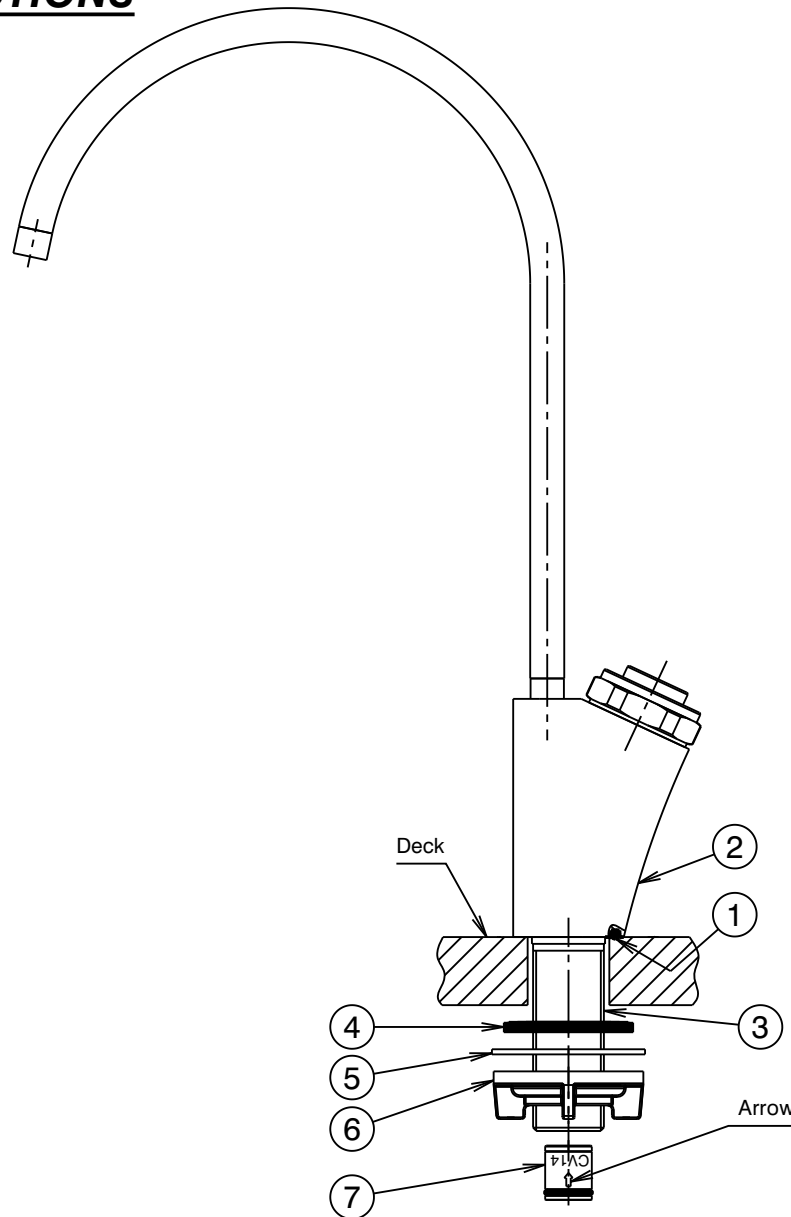

Fig.1
Ensure 'O'ring (1) is fitted into groove of bottle filler (2). Insert threaded tube (3) of bottle filler into deck hole, locate bottle filler as required, fit metal washer (5) together with flat seal (4) over threaded tube (3) of bottle filler (2) as shown in Fig. 1. Screw clamp ring (6) onto threaded tube (3) until bottle filler assembly is clamped firmly to the deck. DO NOT OVERTIGHTEN.